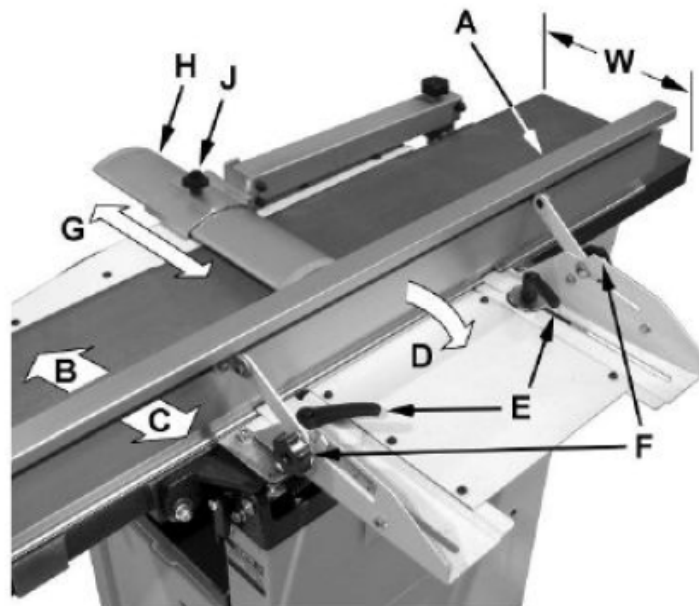

Figure 7
Referring to Figure 7:
6. Raise the infeed table (G) until it contacts the straight edge (D). The straight edge should lie level across both tables. Move the straight edge to the back of the outfeed table as shown in Figure 7 and perform the same test. If the straight edge does not lie level, the front or back of one of the tables must be adjusted to make the tables coplanar.